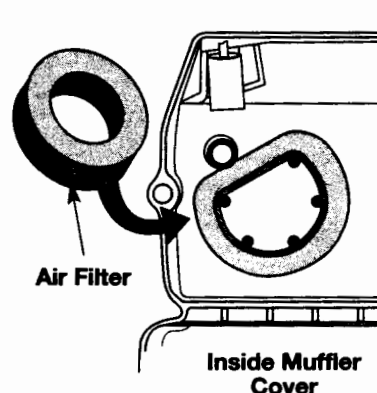

Fig. 37
2. Turn cover over and look inside to locate the air filter. Remove the air filter from inside the air filter/muffler cover (Fig. 37).